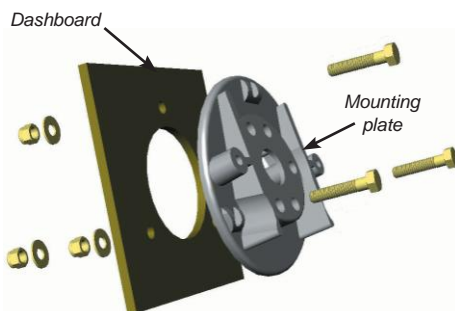

Fig B16 - Tilt bezel plate fitted to dashboard
- Fit the modified tilt mechanism mounting plate supplied with the Type T drive to the dashboard (Fig B16). This part replaces the existing mounting plate which is discarded.